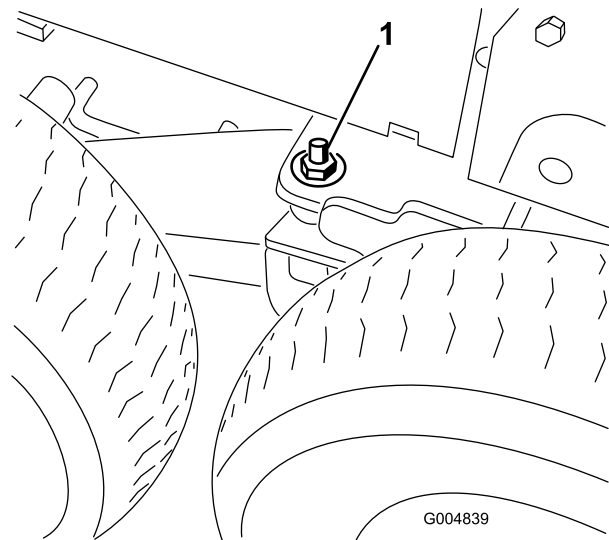

Figure 52
15. Remove the flat washer (1/2 inch) and nut (1/2 inch) installed on the stud on each bogie pivot (Figure 52).